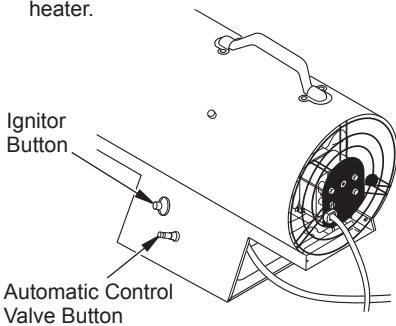

Figure 7 - Automatic Control Valve Button and Piezo Ignitor (40,000 Btu/Hr Models)
6. **40,000 Btu/Hr Models** Push in and hold automatic control valve button (see Figure 7). Push piezo ignitor button (see Figure 7). Keep pushing ignitor button until the burner lights. When burner lights, keep automatic control valve button pushed in. Release button after 30 seconds. This activates the automatic control system.